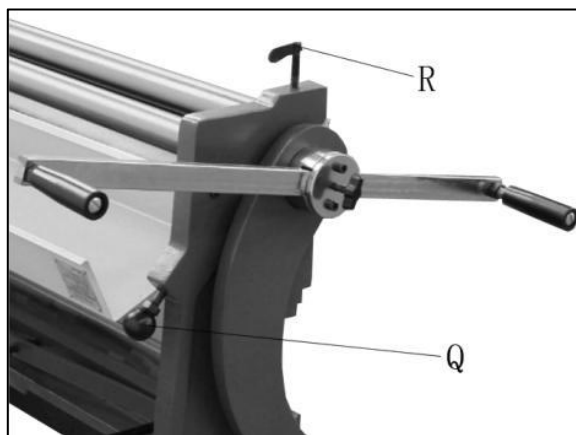

Figure 11
2. Back off idle roll completely by rotating idle roll screws (Q, Figure 11) counter-clockwise.
3. Loosen bolt (R, Figure 11) to increase space between upper and lower press rolls.
4. Insert material between upper and lower rolls, and tighten bolt (R, Figure 11) to lower the upper roll, until material fits snugly. The upper roll must have sufficient pressure on workpiece to feed properly.
5. Rotate both idle roll screws (Q, Figure 11) to adjust idle roll's proximity to the two main rollers. Raise both ends an equal amount.